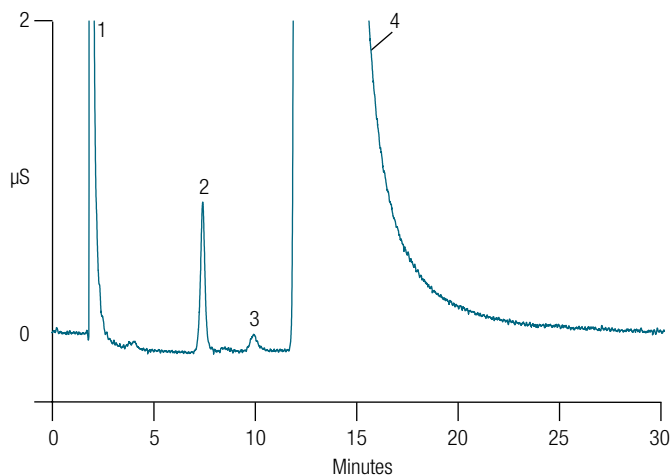

Figure 1. Determination of chloride in acid copper plating bath.
Ion chromatography (IC) provides a convenient method for the determination of chloride in acid copper plating baths. These baths are used for deposition of copper on semiconductor wafers. Monitoring chloride concentration is of interest because it plays an important role in the quality of copper deposition. Compared to standard wet chemical techniques, IC offers improved speed and accuracy for this analysis. An acid copper bath typically contains copper sulfate, sulfuric acid, hydrochloric acid, and a variety of proprietary additives. Figure 1 shows an analysis of a 25 μL sample of copper plating bath diluted 1:100. Chloride is detected by suppressed conductivity and the Thermo Scientific™ Dionex™ EG40 eluent generator is used to prepare the 30 mM potassium hydroxide eluent on-line. Chloride is separated from the excess of sulfate present in the copper plating bath. This Application Update describes the setup and procedure to determine chloride in a copper plating bath using the Thermo Scientific™ Dionex™ IonPac™ AS15 column.